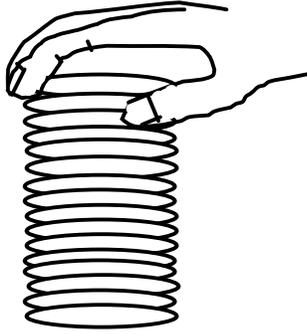

Figure 4.
2. Plot the Response (G) versus Excitation Frequency (Hz).
4. Optional. Procure a slinky. Hold the top of the slinky as shown in Figure 4.